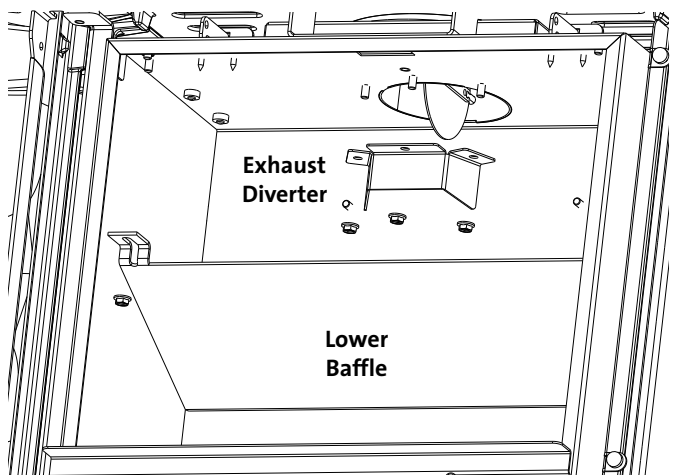

Figure 7.5. **PROPANE ONLY:**
- Remove two, 6 mm nuts to detach the Lower Baffle assembly from the firebox. See fig. 7.5.
- Remove three 6 mm nuts to remove the Exhaust Diverter from the exhaust outlet. Replace the nuts on the studs. See fig. 7.5.